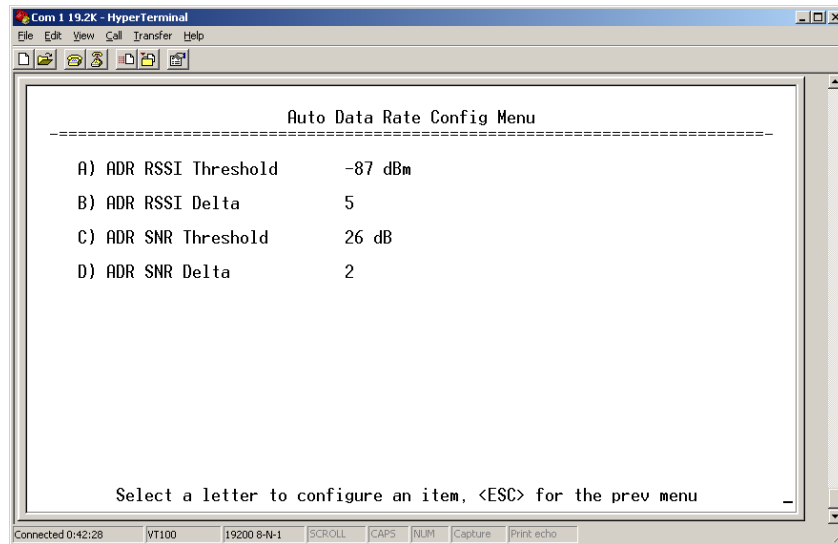

Figure 2-37. Auto Data Rate Submenu
- **Auto Data Rate Configuration** (*Remote only*)—This selection brings up a submenu as shown in Figure 2-37. For the settings in this submenu to have any effect, the Data Rate menu item (Page 41) must be set to **AUTO**.
Using the example of Figure 2-37, assume the current RSSI is -87 dBm. An RSSI reduction of more than 5 dBm (more negative RSSI number) would cause a data rate change from high speed to standard speed. Once the data speed has changed to standard speed, an RSSI *increase* to the level of -82 dBm would be required for the radio to switch back to high speed. This provides an operational “window” or hysteresis range over which the data speed stays constant despite minor changes in signal strength.
The SNR (signal-to-noise ratio) threshold and delta operate in the same manner described above, with the exception that the units are expressed in relative dB instead of dBm. In the example of Figure 2-37, a drop of 2 dB from a level of 26 dB would result in a data rate change from high speed to standard speed. For the radio to return to high speed, the SNR would need to increase to 28 dB. (*See Glossary for definition of SNR.*)
Figure 2-37 shows the default values for RSSI and SNR parameters but these may be changed to optimize performance in your environment. In properly designed systems, experience has shown that RSSI levels between -50 dBm and -90 dBm provide reliable operation, provided the signal-to-noise ratio is 17 dB or above. Tailoring the thresholds with these baseline values in mind, can provide improved performance in your system.